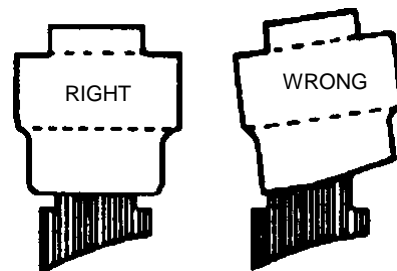

Figure 5-22. Right and Wrong Installation
6. Confirm that the new tip has been installed straight. Refer to **Figure 5-22**.